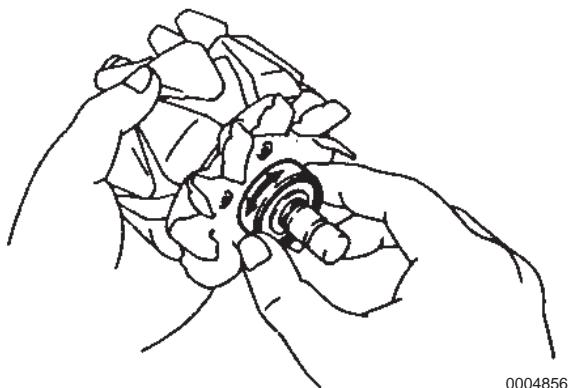

Figure 11-30
5. Rotate and inspect the rear bearing for wear and damage. If necessary replace the rear bearing (**Figure 11-30**).